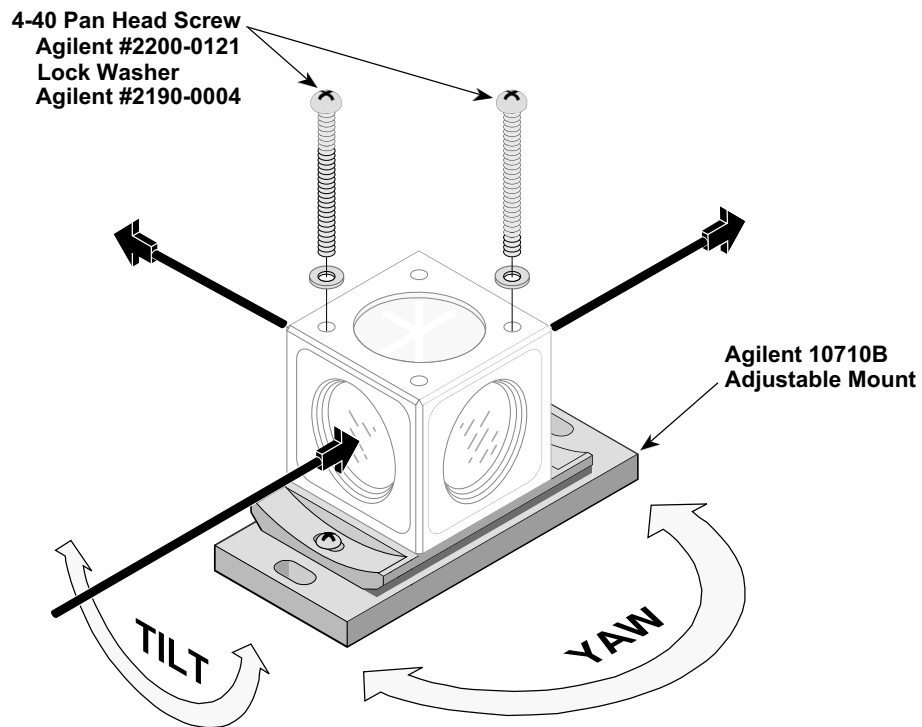

Figure 4-2. Horizontal plane mounting using the Agilent 10710B adjustable mount
1. Figure 4-2 shows how to mount the beam splitting and beam bending optics or the single-beam interferometer in the horizontal plane, using the Agilent 10710B Adjustable Mount.